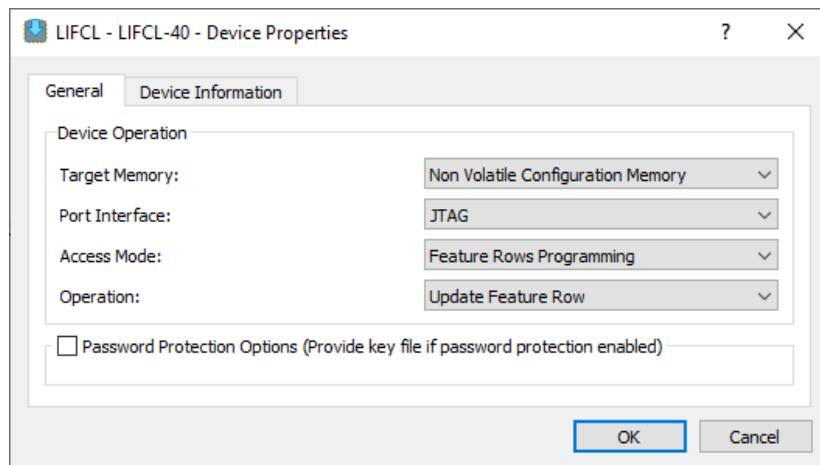

Figure 2.7. Device Properties
1. Open the Radiant Programmer and set the appropriate settings as shown in Figure 2.7. Click **OK**.